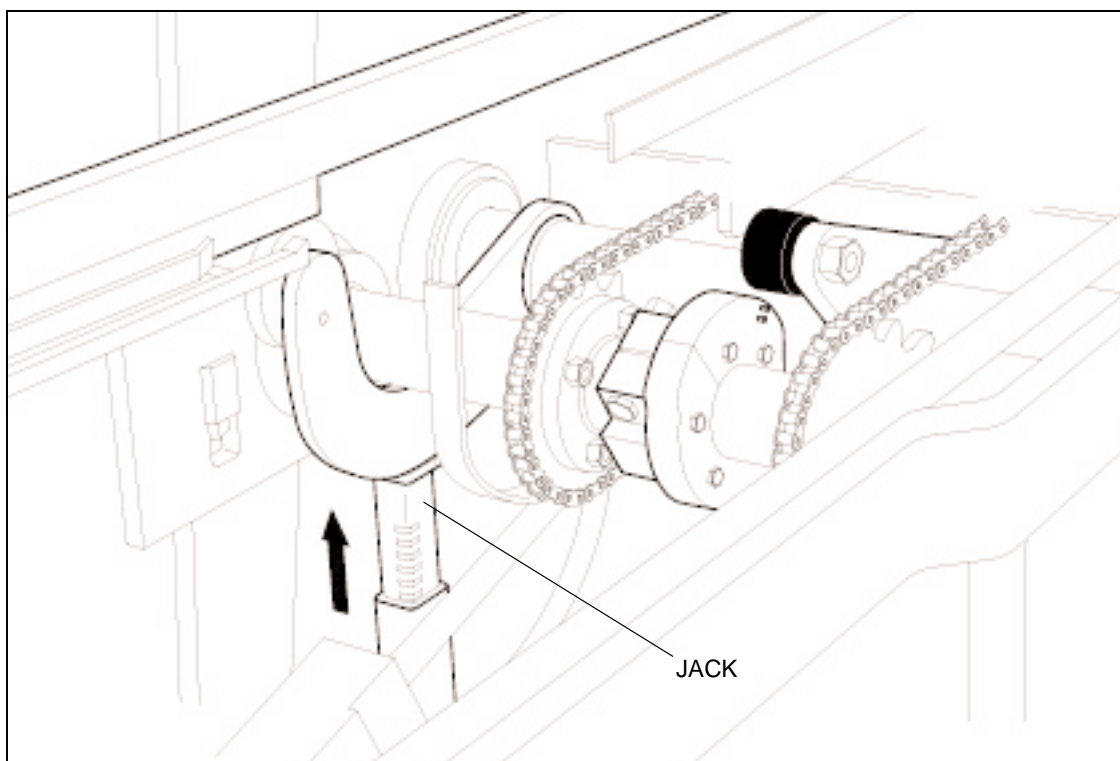

Figure 6.9 JACKING AND HOLDING PALLET MOVING BARS
6.2.4 Jack up and hold pallet moving bars at front of machine when manually moving chain lugs and pallet lowering cam (see figure 6.9). Hold the moving bars high enough to prevent roller to